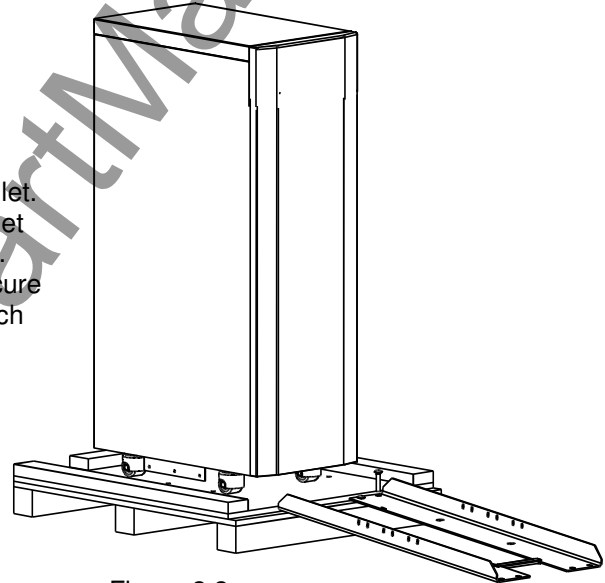

Figure 2.2
- 2) Unbolt the rails from the shipping pallet. Place the rails on the front of the pallet as shown in figure 2.2 and figure 2.3. Use the four 1/2x3" bolts used to secure the rails to the shipping pallet to attach the rails as shown to the front of the pallet.